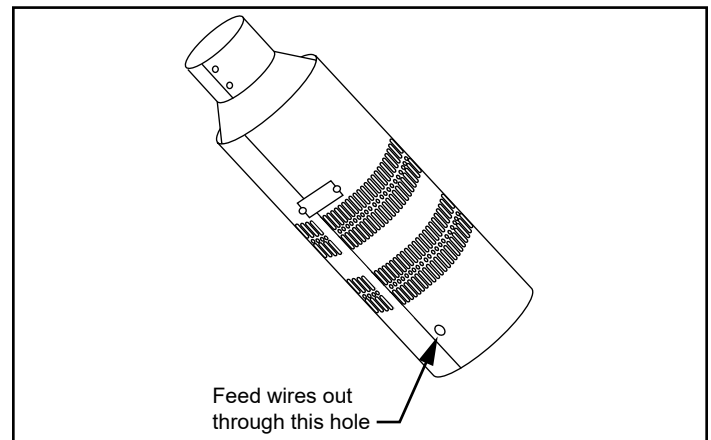

Figure 6 - Draft hood adapter.
6. Secure the wires under the clips on the back panel of the stove and connect them to the valve and "ON/OFF" switch as shown in Figure 6 wiring diagram. Be careful not to draw any wiring tight across any metal edges. If the stove is fitted with the Signature Command valve, connect the draft hood sensor wires to the Signature Command receiver wire assembly, Figure 8.
2. Feed the wires from the draft hood sensor in the draft hood adapter out through the hole in the side of the adapter, Figure 6.
4. Secure the wires under the clips on the back panel of the stove and connect them to the valve and "ON/OFF" switch as shown in Figure 6 wiring diagram. Be careful not to draw any wiring tight across any metal edges. If the stove is fitted with the Signature Command valve, connect the draft hood sensor wires to the Signature Command receiver wire assembly, Figure 8.
Connectors are labeled as shown in Figure 6 on all gas millivolt control valves.